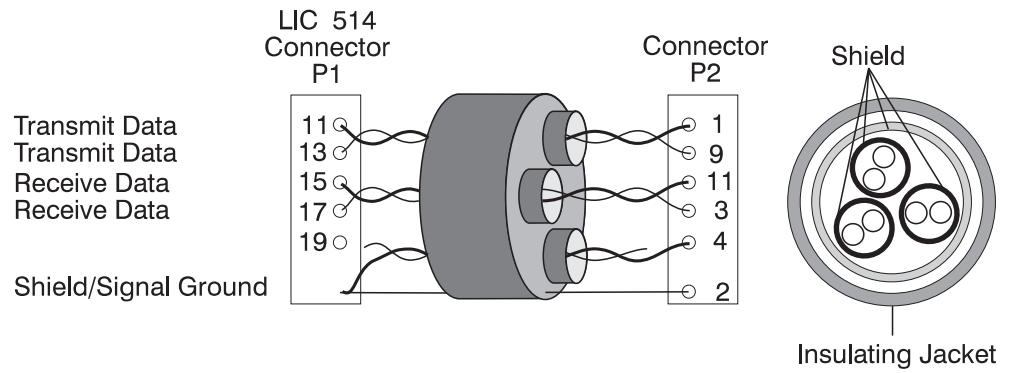

Figure 2-77. LIC514 DB15 Cable
- Three twisted pairs AWG 24, 100 ohms (see Figure 2-77 on page 2-47).